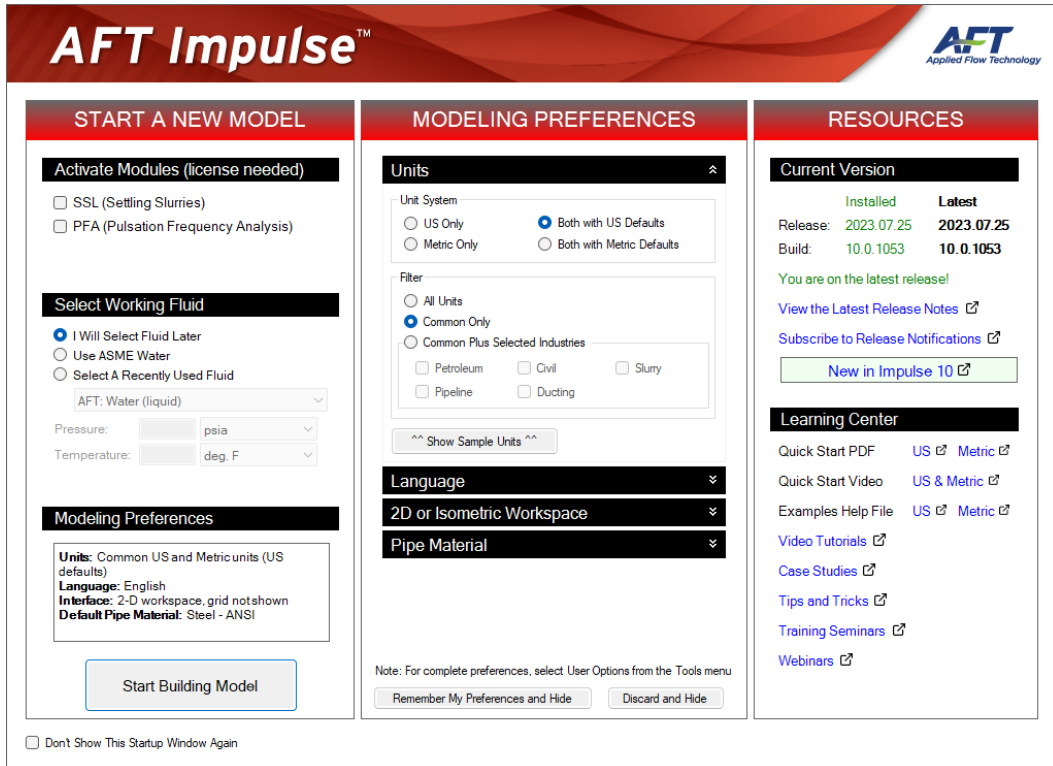

Figure 2.2 Startup Window with Modeling Preferences expanded
If this is the first time that you have started AFT Impulse, Modeling Preferences will be expanded in the middle section of the Startup Window, as shown in Figure 2.2. If this is not the first time that you
- **With Modeling Preferences expanded, as in Figure 2.2, select Both with US Defaults under Unit System.** The Filter section can be used to limit the number of units that are shown in the interface.